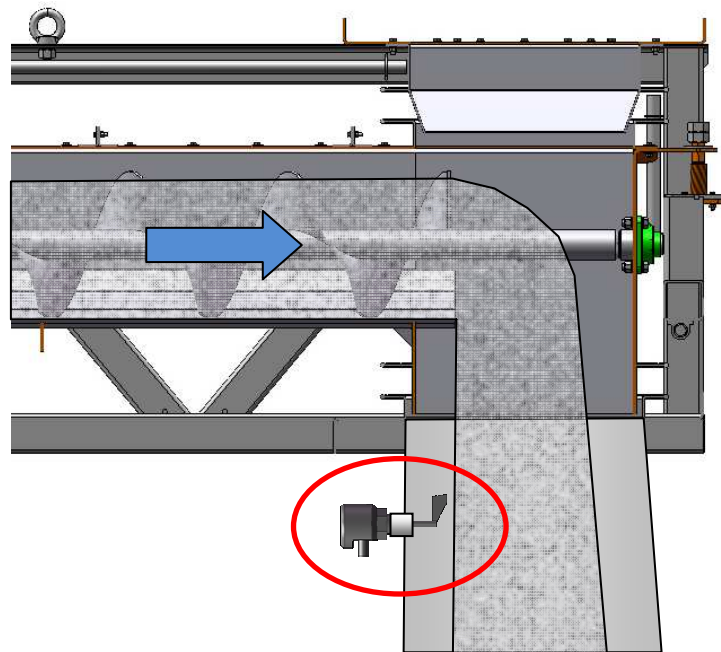

Fig. 2: The clogging sensor is installed outside, but near the discharged materials to indicate any increasing material.
- 9) Free output of the material from the feeder outlet must not be blocked in any manner. Potential clogging of the downstream conveying line, causing the blocking of screws / spirals, may result in considerable damage or even destruction. The user must provide the upstream conveying line under the scale outlet (chute, transition section) with corresponding sensors to indicate any overfilling or clogging. (see Fig. 2) In no case, Schenck Process shall be liable for any damage to the MultiFlex feeder caused by the blocking of downstream conveying line. By reducing the power supply for the drive of the screws or spirals in the frequency converter, and thus by decreasing the maximum torsion moment, it is possible to reduce, but not eliminate their potential damage.